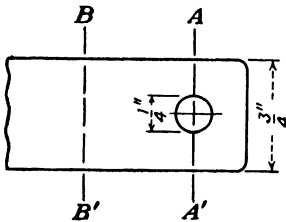
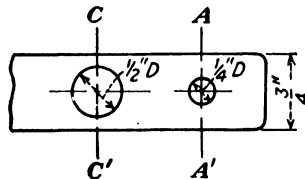

Fig. 225.
Fig. 226.
1. Using Table 12, find the tensile strength of the fitting in Fig. 225, (a) at section  $BB'$ , (b) at section  $AA'$ . The material is  $\frac{1}{16}$ -in. low-carbon steel.
2. Suppose that a  $\frac{1}{2}$ -in. hole were drilled by a careless mechanic in the fitting in Fig. 225. What is the strength of this fitting in Fig. 226 now?